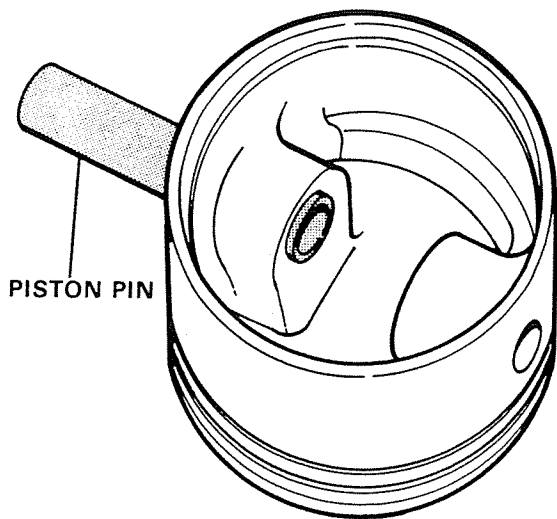

Figure 25. Positioning Piston Pin in Piston.
B. Install piston pin part way in piston so that end of pin is flush with pin boss inside piston. Figure 25.